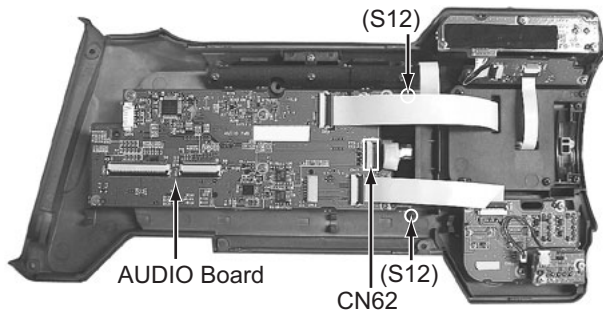
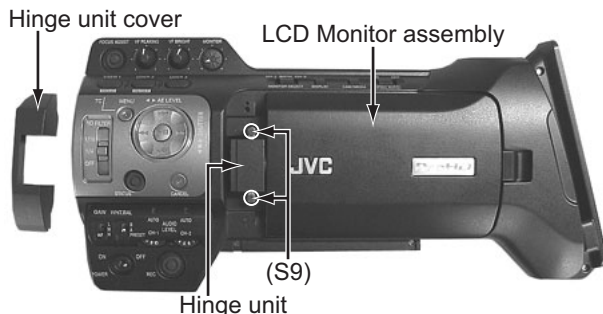

Fig.16
Fig.17
3.4.2 Removing the LCD monitor assembly (See figure 16 and figure 17)